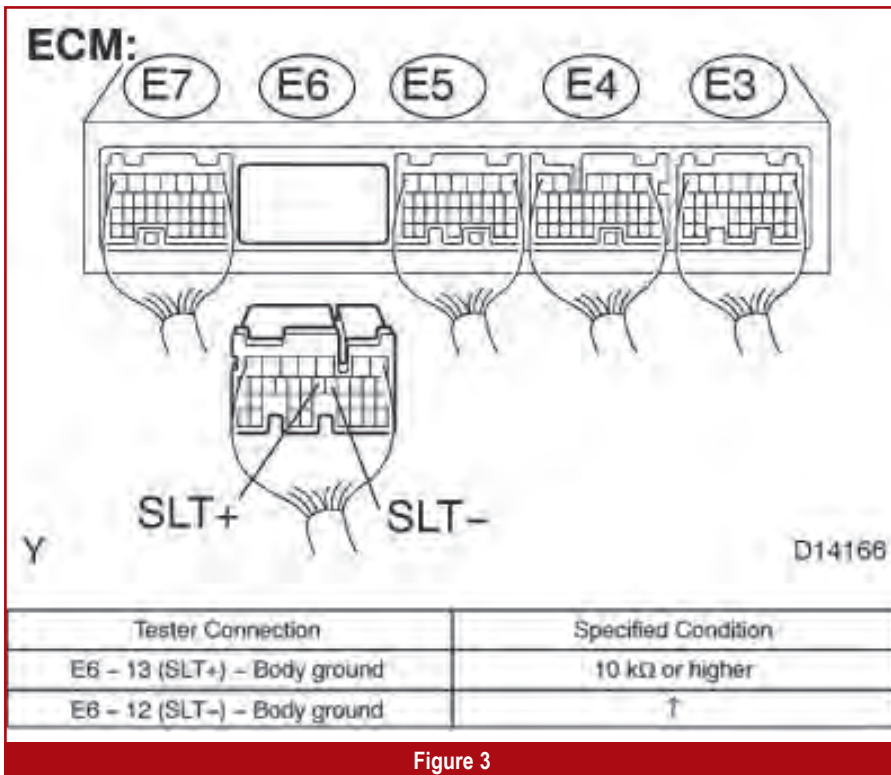

Figure 3
- Unplug the E6 connector from the computer (figure 3).